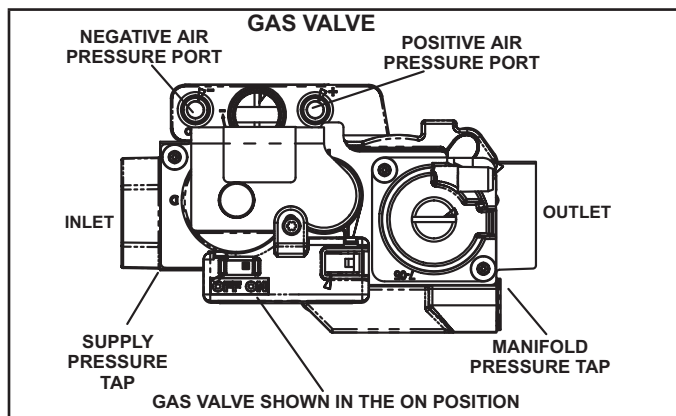

FIGURE 63
Gas Valve Operation (FIGURE 63)
- 6 - Move gas valve switch to OFF. See FIGURE 63.
- 8 - Move gas valve switch to ON. See FIGURE 63.